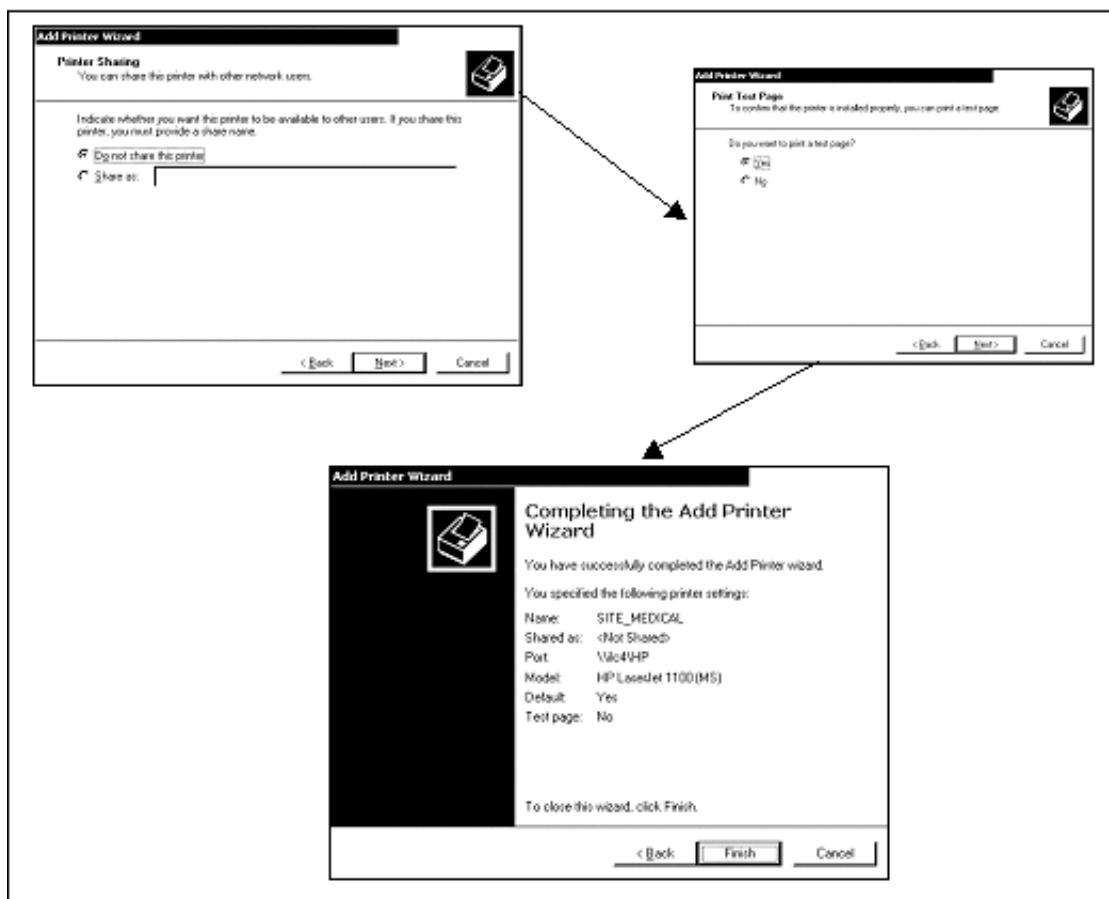

Figure 6-26: Adding a TCP/IP Printer, Steps 9-11
10. Click the Do Not Share This Printer option (the printer will still be available) and click the Next button (Figure 6-26).